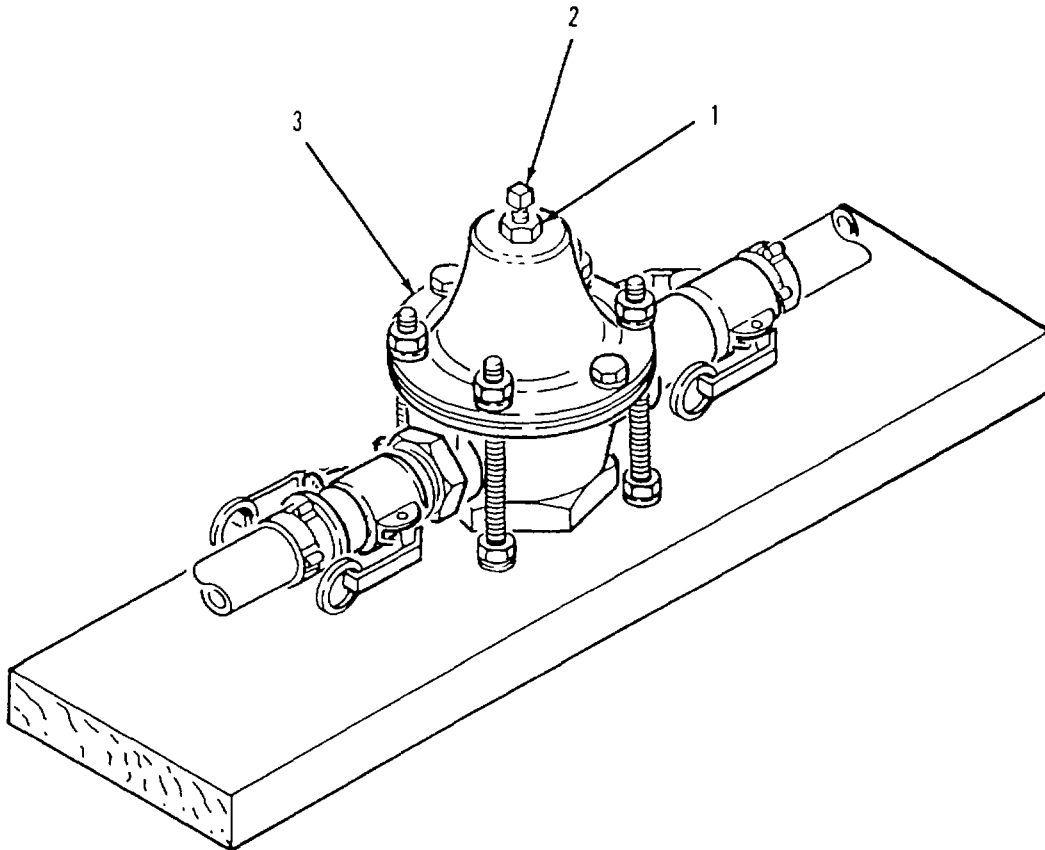

Figure 4-12. Water Pressure Regulator Adjustment.
- (19) Install threaded rods (10) on board (11) with four washers (7) and nuts (6). Adjust position of nuts (6 and 9) on threaded rods so that rods extends about 1/4-inch below board.
- (20) Install four nuts (5) and washers (10) on threaded rods (10).
- (21) Lower regulator assembly (3) onto threaded rods (10).
- (22) Install four washers (2) and nuts (1) on threaded rods (10).
- (23) Position four nuts (5) and washers (4) against bottom of regulator assembly (3), then tighten four nuts (1).
- f. Adjust. Refer to figure 4-12.
- (1) Install regulator assembly in water system (hose and nozzle kit) (para 3-4a).
- (2) Startup water system (para 2-12c) and check regulator assembly for leaks.
- (3) Squeeze distribution nozzle control lever (para 2-2) and allow water to flow.
- (4) If water flow at distribution nozzle is not at desired pressure, loosen locknut (1) on regulator assembly (3).